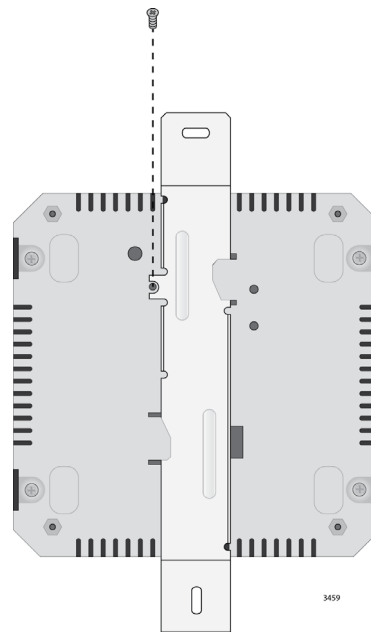

Figure 10. Attaching the Mounting-Bracket Screw
2. Attach the mounting-bracket screw through the cut-out in the mounting bracket to the bottom of the access point, as shown in Figure 10 on page 35.